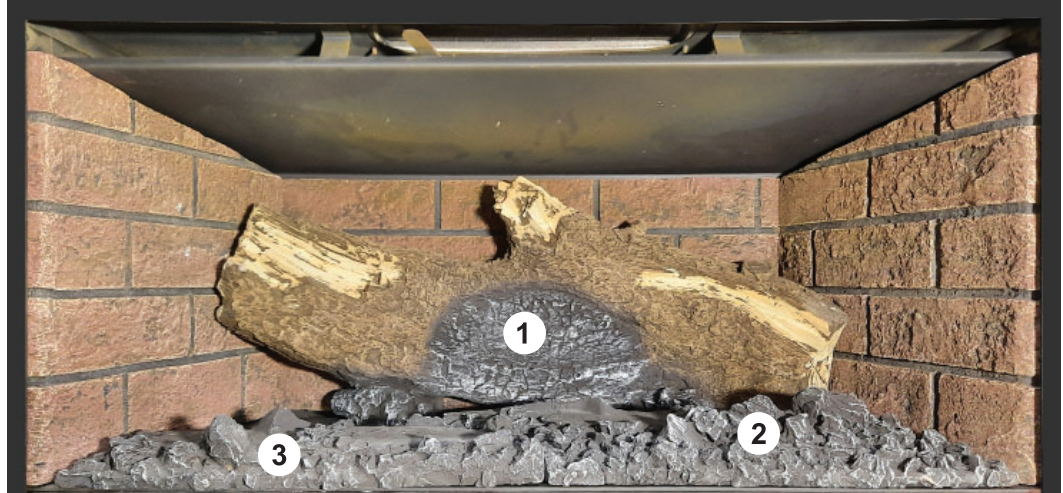

Fig.3
3. Interlock **#3 ember base** with **#2 ember base**, keep flush with firebox front edge. **(Fig.3)**